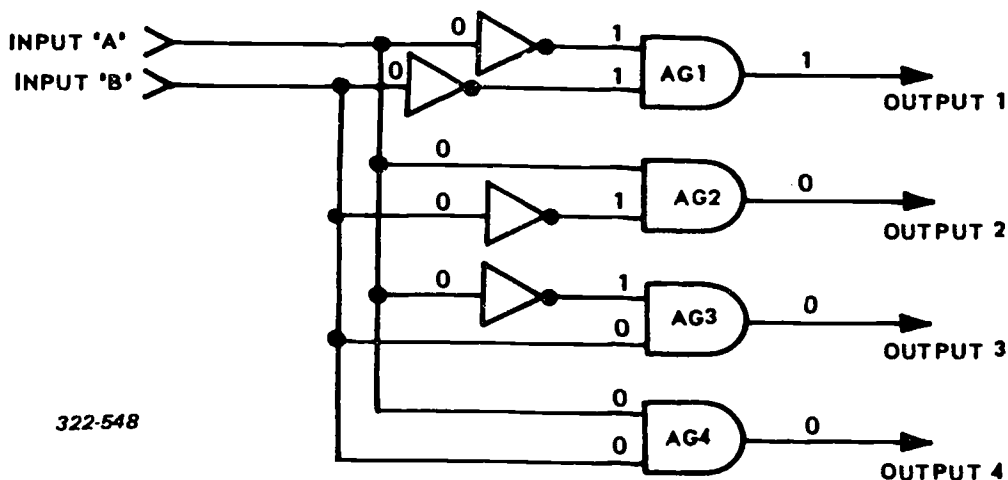
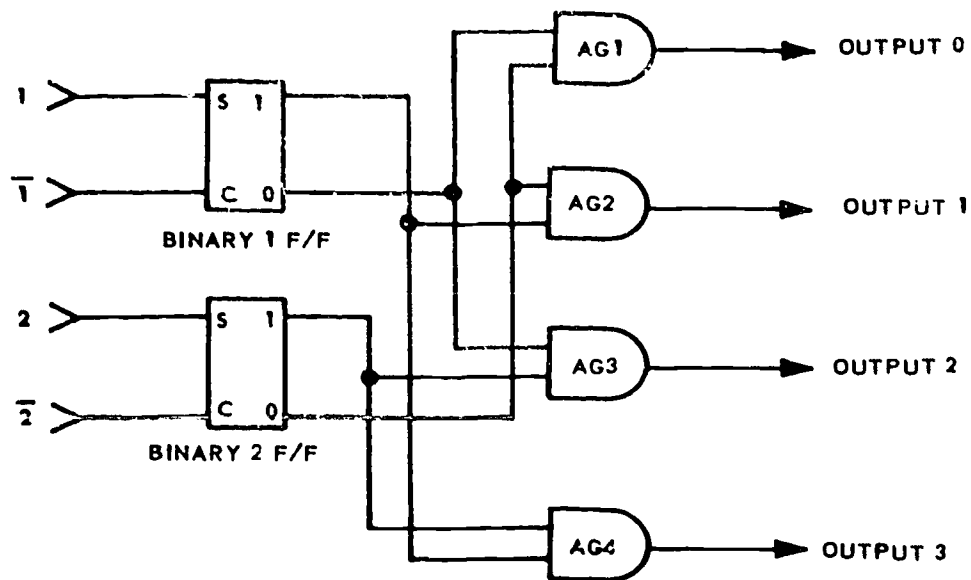

Figure 1-2. Binary and decimal decoding circuit.
Figure 1-3. Four-output decoder.
Binary and decimal decoding. To illustrate how a typical decoding circuit operates, we discuss a simple example with two binary inputs. The decoder must detect all possible combinations of input conditions, and then produce a separate, distinct output for each condition. With two inputs, each having either a high or low state, the decoder must generate a minimum of four (2²) outputs. Refer to the circuit in figure 1-2.
The simple decoding circuit in figure 1-2 has four AND-gates since it has to produce a separate output for each specific combination of inputs. Note that some of the input lines contain inverting amplifiers. These are required for correct decoder operation.
The other two possible input conditions (A high, B low; A and B both high) cause high outputs on gates 2 and 4, respectively. The circuit in figure 1-2 satisfies the definition of a decoder; it produces a single, one-of-four output for each specific input condition. Refer now to figure 1-3.
In figure 1-3, the decoder circuit is slightly modified. It still has two inputs, but uses flip-flops as input signal sources. The need for inverters is eliminated by using the "0" outputs from the flip-flops. Other than these changes, this decoder operates the same as the circuit discussed earlier.
- (1) The 1 and 0 are the two _____ used in the binary number system.
- (2) The quantities 1111_2 and F_{16} are _____.
- (3) Binary arithmetic circuits require _____ components than decimal circuits.
- (4) A/An _____ circuit translates a combination of inputs into a single one-of-a-group output.
- (5) A/An _____ circuit translates one-of-a-group inputs to a combination output.
- (6) The binary and decimal decoding circuit produces a low on the output of AG2, AG3, and AG4 of figure 1-2 when inputs A and B are _____.